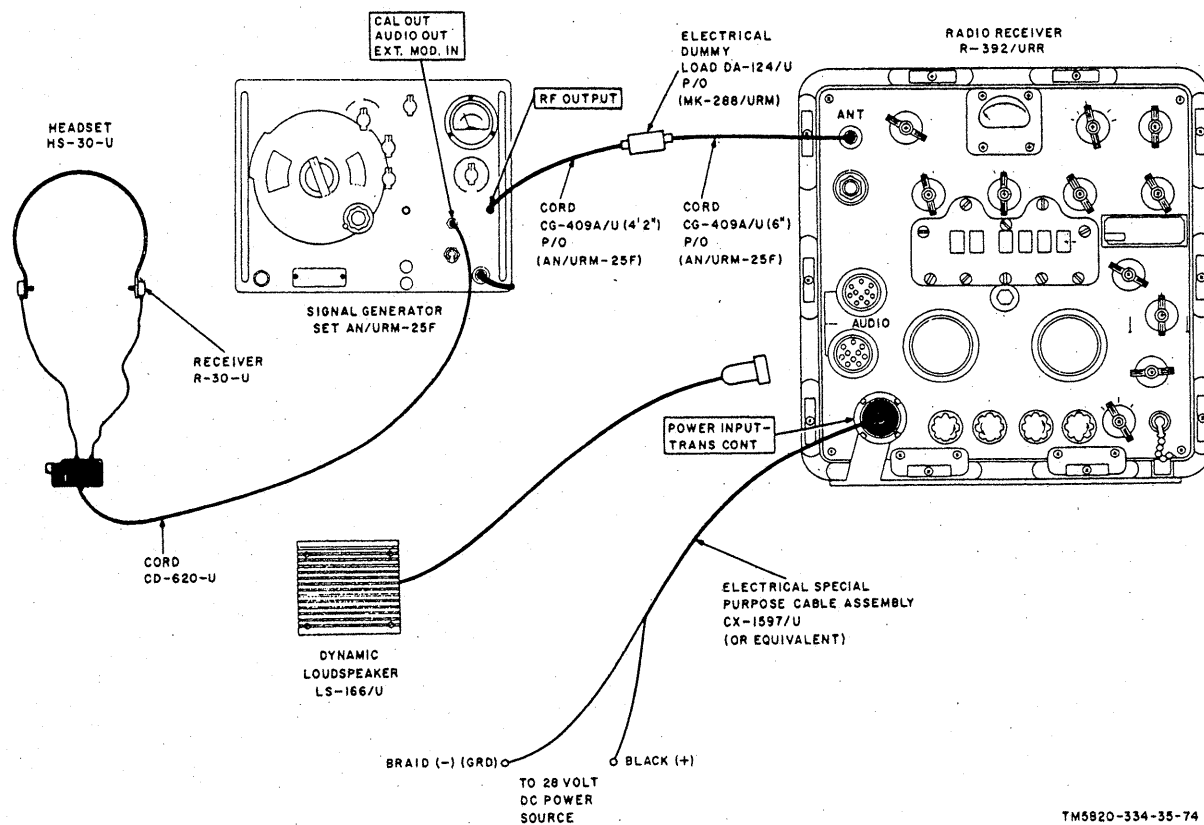

Figure 74. Calibration oscillator test.
101. Calibrating Oscillator Test (fig. 74)
b. **Test Connections and/or Conditions.** Connect the equipment as shown in figure 74.